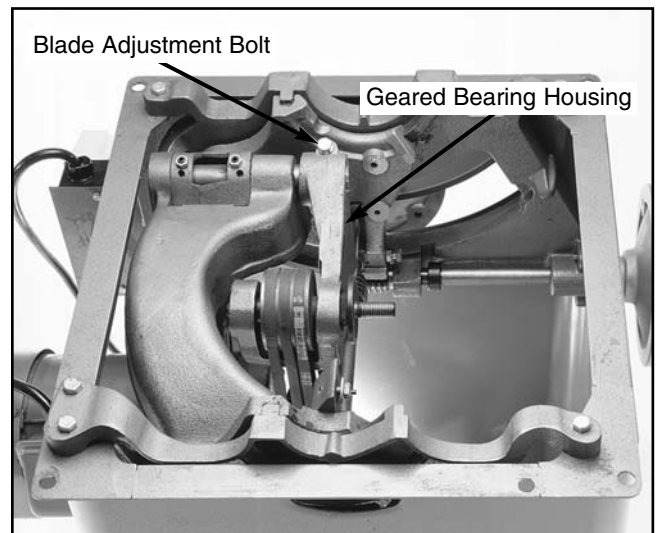

Figure 30.
2. Loosen the blade adjustment bolt. **Figure 30.**